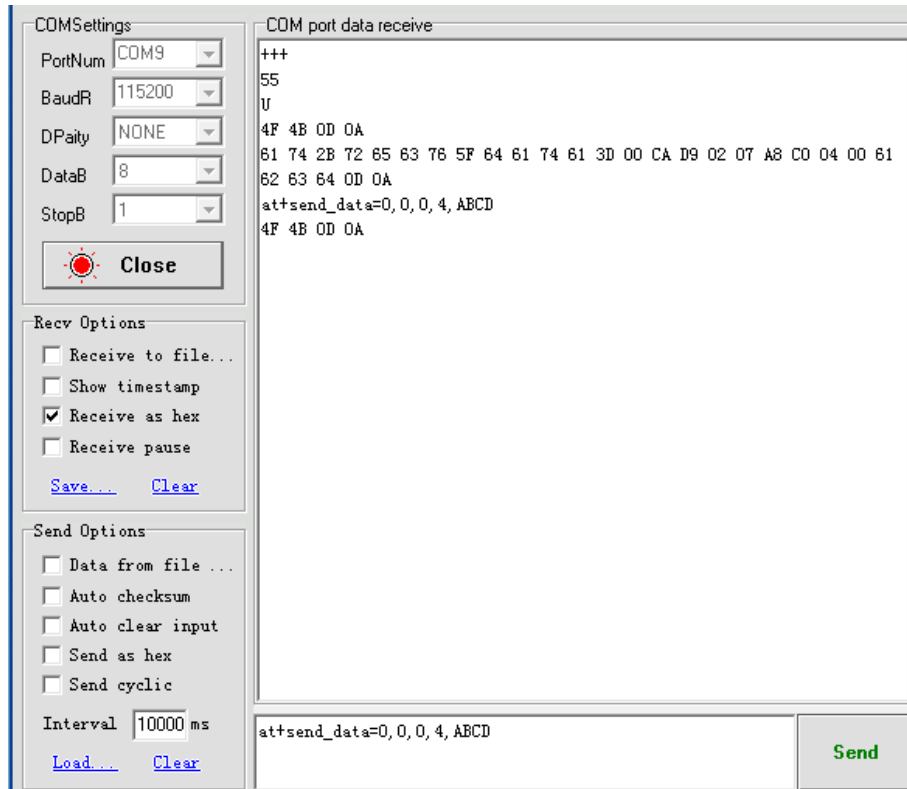

Figure 1-3 Module Data Sending and Receiving
4. The TCP Server sends a string to the TCP Client, namely, send data “ABCD” from the module to the TCP/UDP Test tool (Figure 1-3).